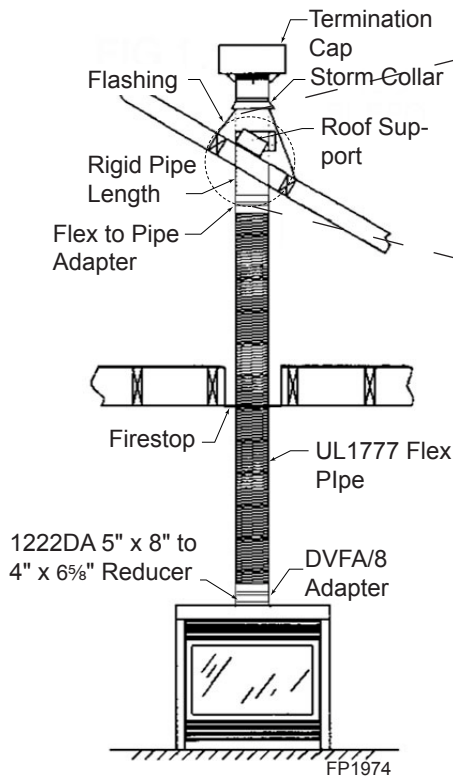

Figure 38 - Typical Vertical Flex Vent Installation
- A. Installing the inner flex adapter and pipe. *Figure 38*
2. Install firestop spacers, *Figure 38*, when penetrating ceiling, attic spaces, or walls.
4. Use only listed and approved terminations and accessories, installed per the installation instructions and *Figure 38*.
A manual shutoff valve must be installed upstream of the appliance. Union tee and plugged 1/8" NPT pressure tapping point should be installed upstream of the appliance. See *Figure 38*.